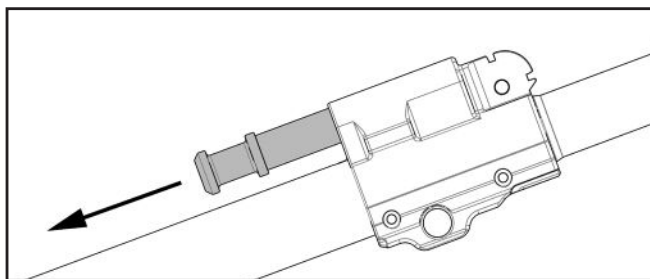

Fig. 46 – Removing Gas Piston
- d. Slide the gas piston to the rear and remove the gas piston from the gas block (Fig. 46).